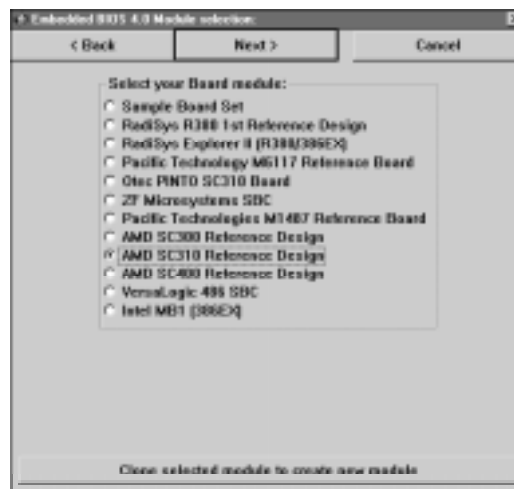

Figure 6.1. Board Personality Module selection.
2. Start a new Embedded BIOS 4.3 Project. Click on the Start a new Project button, select and clone a board module. Click on the listed board module that most closely resembles your project (see Figure 6.1). Click on the button labeled **[Clone Selected Module]**. This will open up the Clone New Module dialog box.